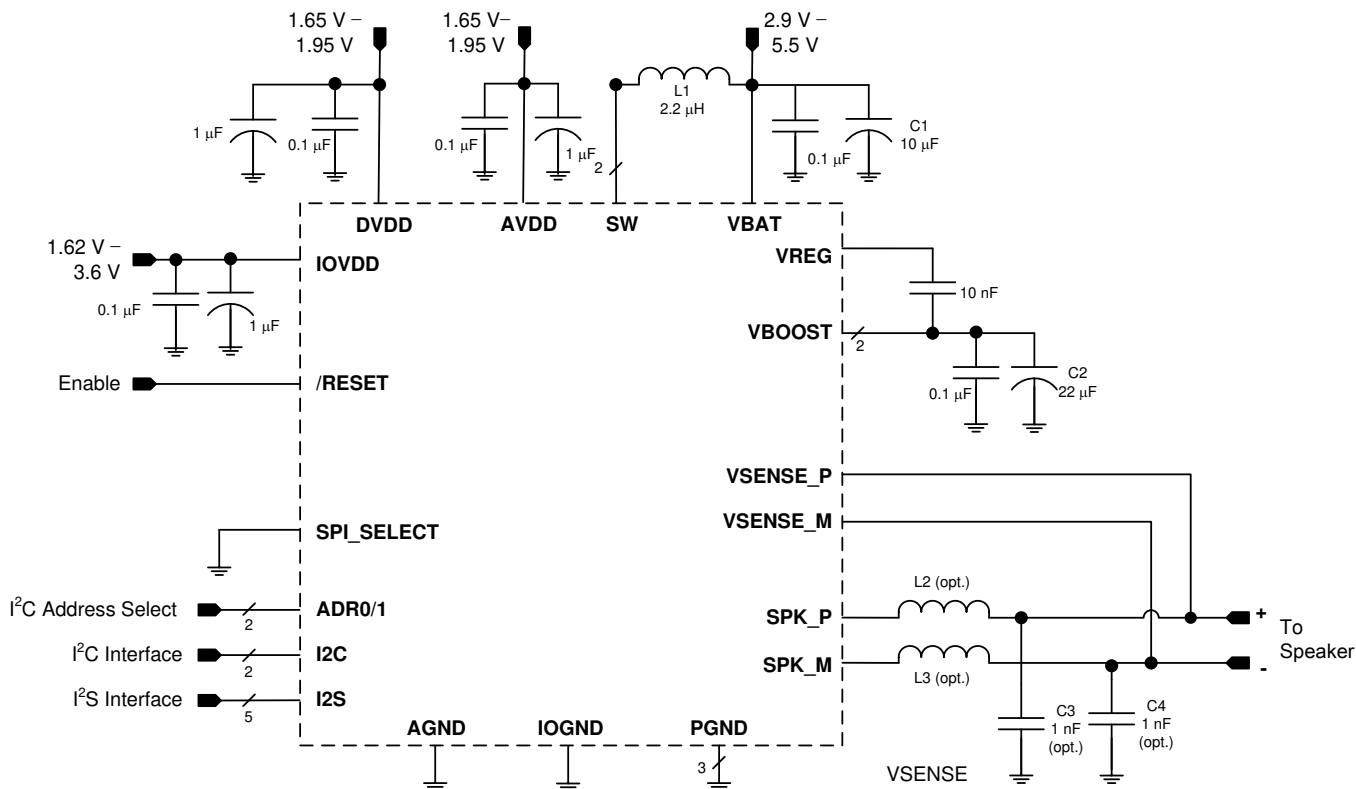

图 38. Typical Application - Digital Audio Input
The boost converter requires three passive devices that are labeled L1, C1 and C2 in 图 38 and whose specifications are provided in 表 4. These specifications are based on the design of the TAS2555 and are necessary to meet the performance targets of the device. In particular, L1 should not be allowed to enter in the current saturation region. The saturation current for L1 should be > ILIM to deliver Class-D peak power.
The TAS2555 device supports edge-rate control to minimize EMI, but the system designer may want to include passive devices on the Class-D output devices. These passive devices that are labeled L2, L3, C3 and C4 in 图 38 and their recommended specifications are provided in 表 4. If C3 and C4 are used, they must be placed after L2 and L3 respectively to maintain the stability of the output stage.
- Use supply decoupling capacitors as shown in Figure 38 and described in Power Supply Recommendations.